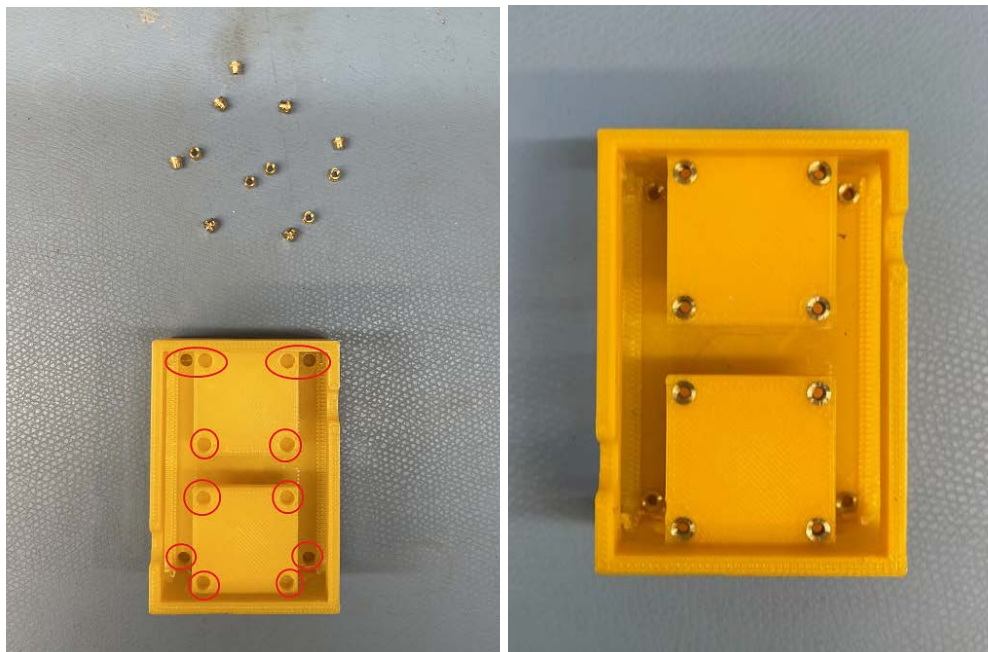

Figure 88: Heat-sets are inserted into the 12 pockets.
10. Using a soldering iron with a tip for M2 heat-sets, insert the 12 heat-sets into the pockets defined by the red circles in Fig 88.